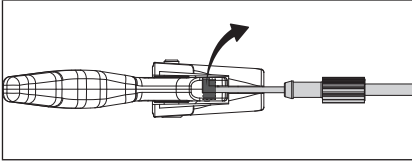

Figure 77
7. Unhook the connector. (Fig. 77)